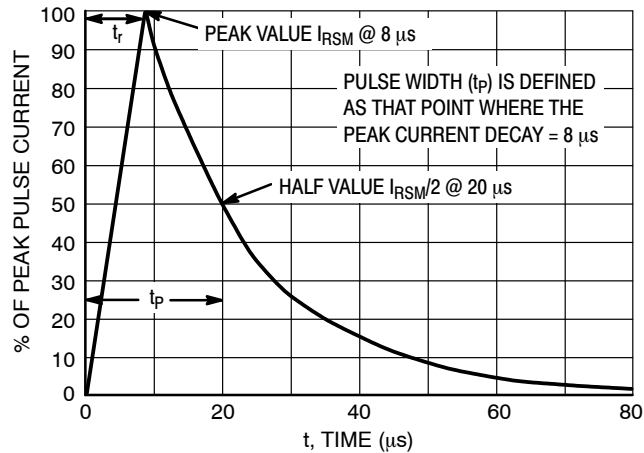
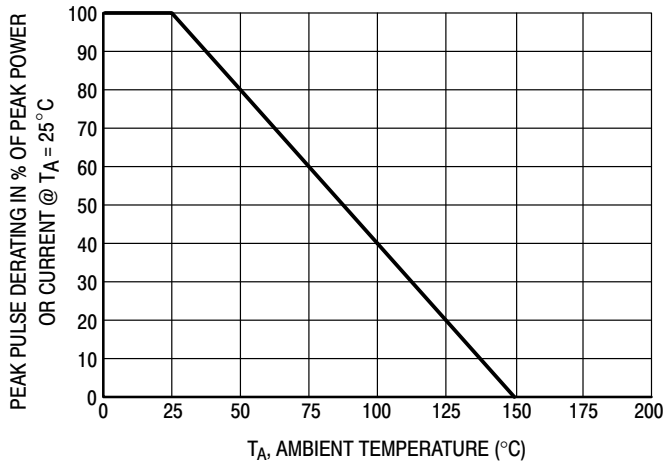

Figure 5. 8 x 20  $\mu s$  Pulse Waveform
Figure 10. Pulse Derating Curve
1. Non-repetitive current per Figure 5. Derate per Figure 10.